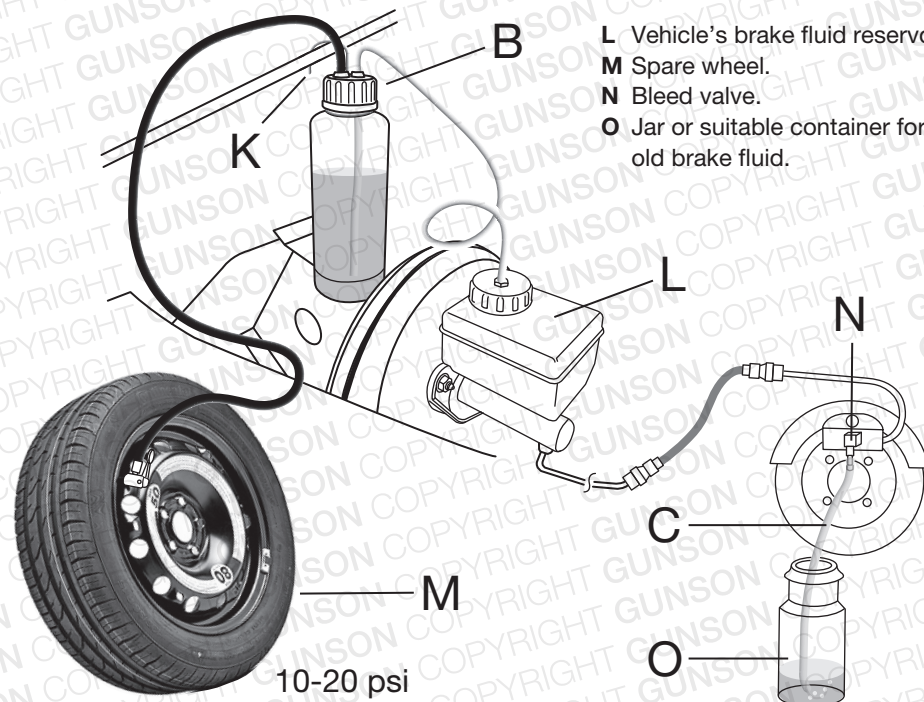

Figure 2
5. Replace the pressure vessel into the system placing it so that it will remain vertical and can not be disturbed during bleeding (**Figure 2**).
7. Connect the bleed tube (C) to the bleed nipple furthest from the master reservoir (as in the sequence usually found in the handbook).